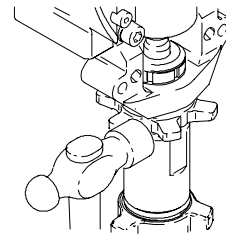

Fig. 11
6. Fig. 11. Screw jam nut (56) up onto pump until nut stops. Tighten jam nut by hand, then tap 1/8 to 1/4 turn with a 20 oz (maximum) hammer to approximately 75 ± 5 ft-lb (102 N·m).